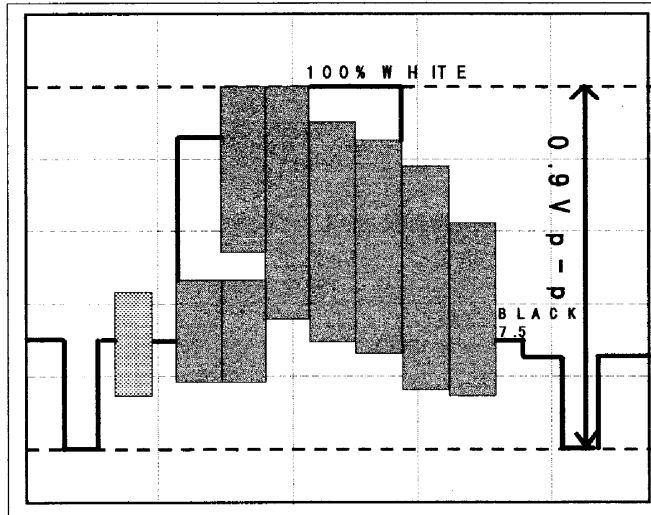

Fig. 7
6. Adjust VR701 to get the waveform at TP10 and TP4 is $0.9V_{p-p} \pm 0.1V_{p-p}$ same with the waveform at probe 1. (Refer to Figure 7)